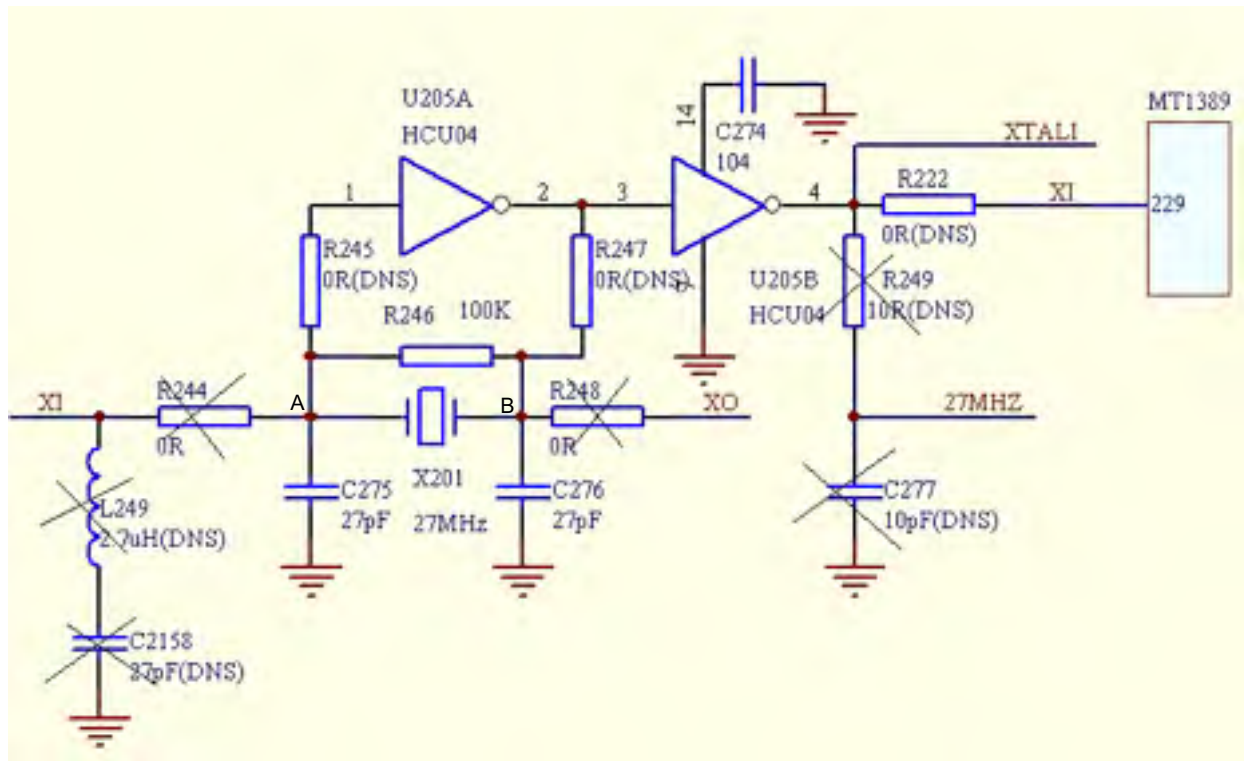

Figure 3.2.5.1 Clock circuit
1. The circuit schematic diagram is shown as the figure 3.2.5.1.